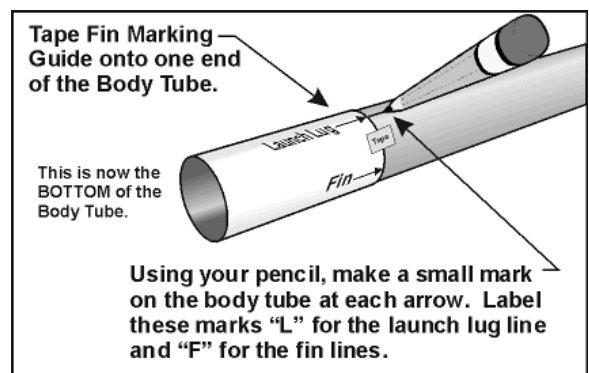

Figure 19
19. Locate the "**Fin Marking Guide**" on the last page and cut it out carefully. Wrap this around one end of the Body Tube and tape it in place. Referring to **Figure 19**, make a mark on the body tube at each arrow shown on the guide.